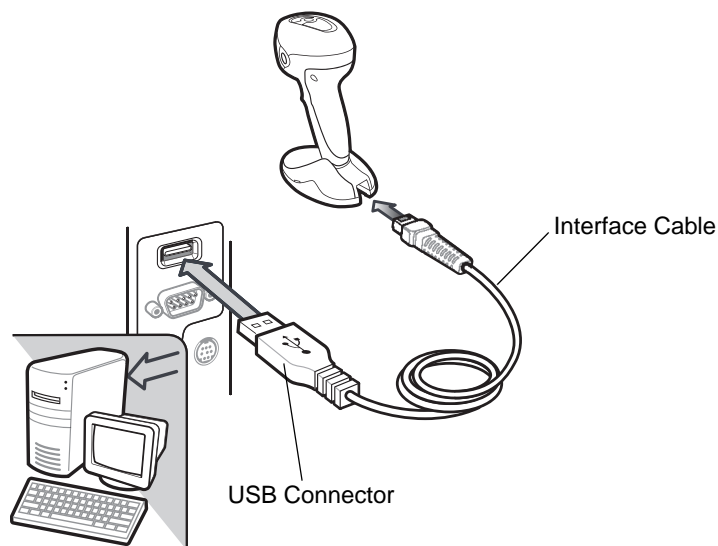

Figure 6-1 *USB Connection*
- ✓ **NOTE** Interface cables vary depending on configuration. The connectors illustrated in Figure 6-1 are examples only. The connectors may be different than those illustrated, but the steps to connect the digital scanner are the same.